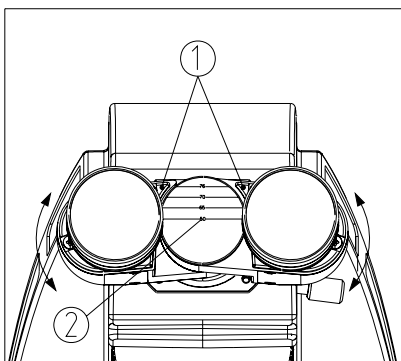

Fig12
“。”① on the eyepiece base points to the scale② of interpupillary indication, which means the value of interpupillary distance (see Fig. 12).